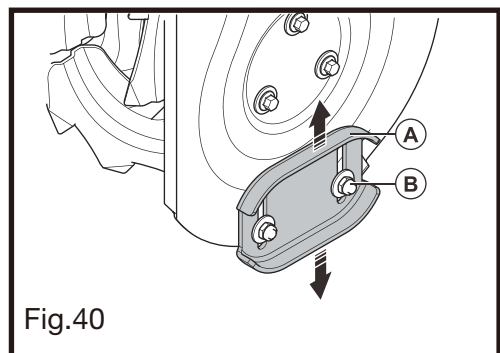

Fig.40
1. When the lock nut (B) is loose or the skid shoe (A) is not high enough from the ground, unlock the lock nut (B).
2. On flat surfaces, like asphalt roads, make the clearance 5-6mm (0.2- 0.25 in) higher between the skid shoes (A) and the ground with a 13 mm open-ended wrench. On uneven surfaces, like gravel roads, raise the scraper bar slightly above the top of the gravel. Make sure that the gravel and stones do not enter into the product. It will cause personal injuries if those foreign objects are ejected at high speed.
3. Fasten the lock nut (B). See Fig.40.